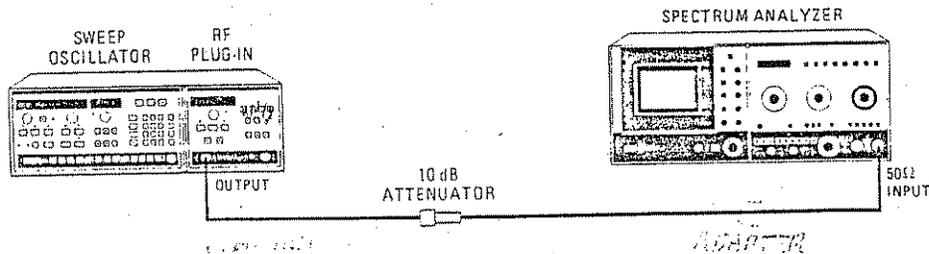

Figure 4--9. Spurious Signals Test Setup
1. Connect equipment as shown in Figure 4--9.